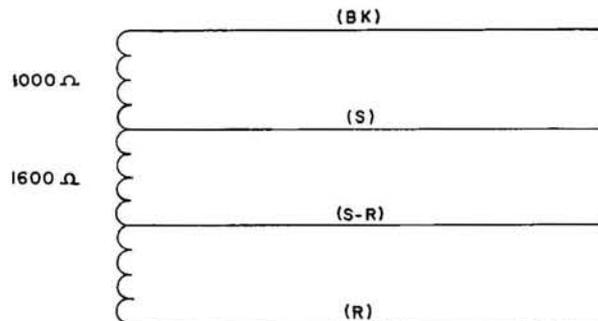

Fig. 5 – Schematic of M1A and N1A Ringer
- Ringer coil is not open or shorted. (See Fig. 5.)